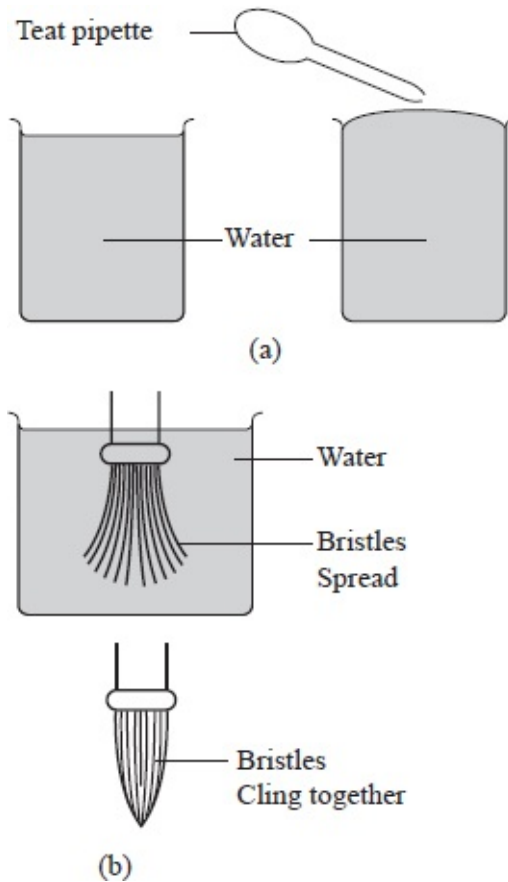

Fig. 3.20: Effects of surface tension
- (i) A glass tumbler can be filled with water above the brim, see figure 3.20 (a).
- (ii) When a soft brush such as an artists brush is placed in water, the bristles spread out but when it is taken out, they cling together, see figure 3.20 (b).